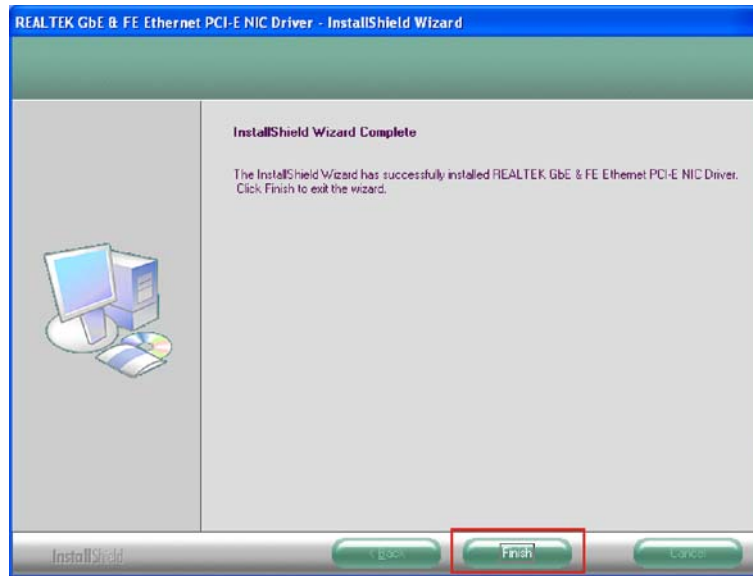

Figure 6-17: Ethernet Controller
Step 8: The driver installation completes and the **InstallShield Wizard Complete** window appears (Figure 6-17).